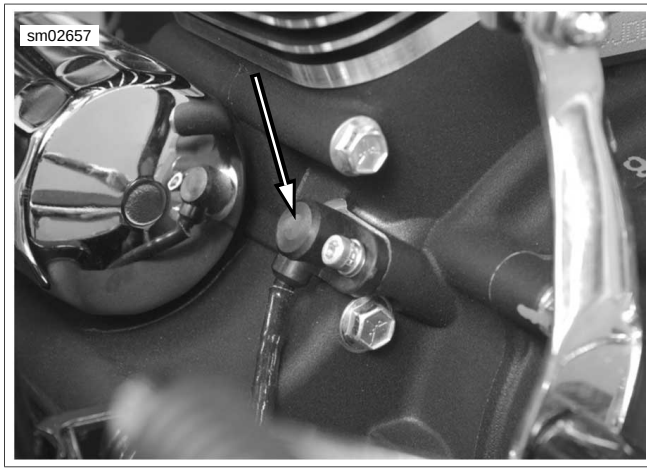

Figure 7-68. Installed CKP Sensor
2. See Figure 7-68. Install **new** CKP sensor with screw and captive washer. Tighten screw to 90-120 in-lbs (10.2-13.6 Nm).